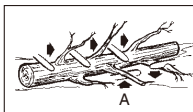

Fig. 12
Limbing a tree is the process of removing the branches from a fallen tree. Do not remove supporting limbs (A) until after the log is bucked (cut) into lengths (Fig.12). Branches under tension should be cut from the bottom up to avoid binding the chain saw.